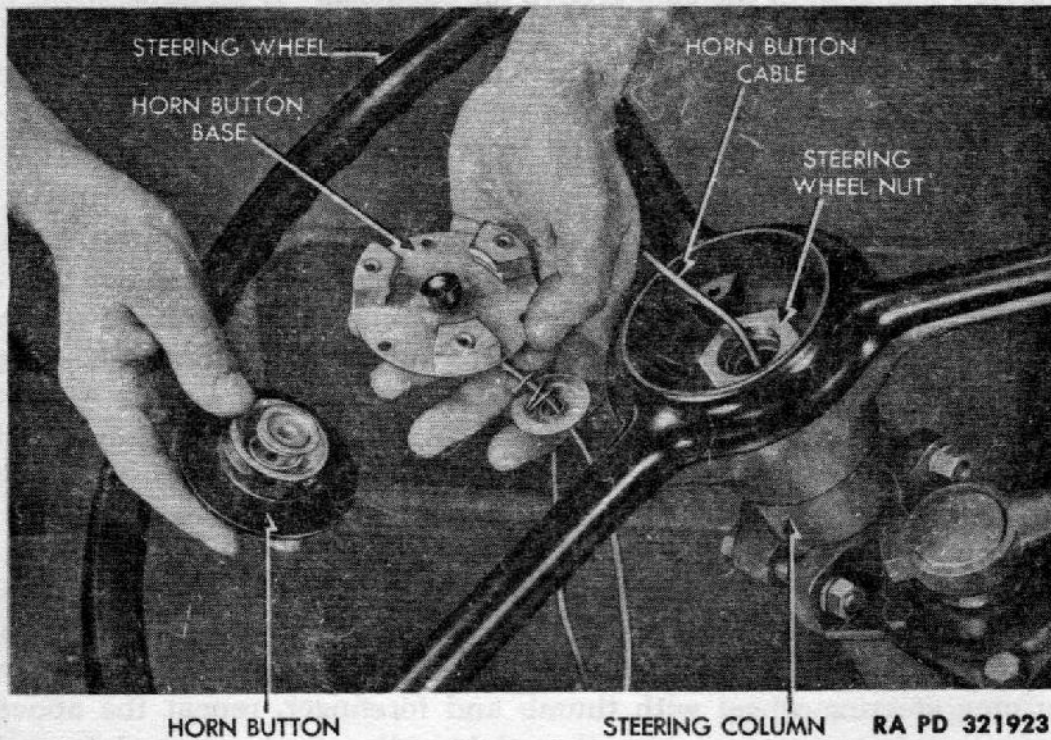

Figure 130 — Removing Horn Button
b. **Installation** (fig. 130). Position steering wheel on jacket tube. Screw on steering wheel nut. Install horn button assembly (par. 110 c).